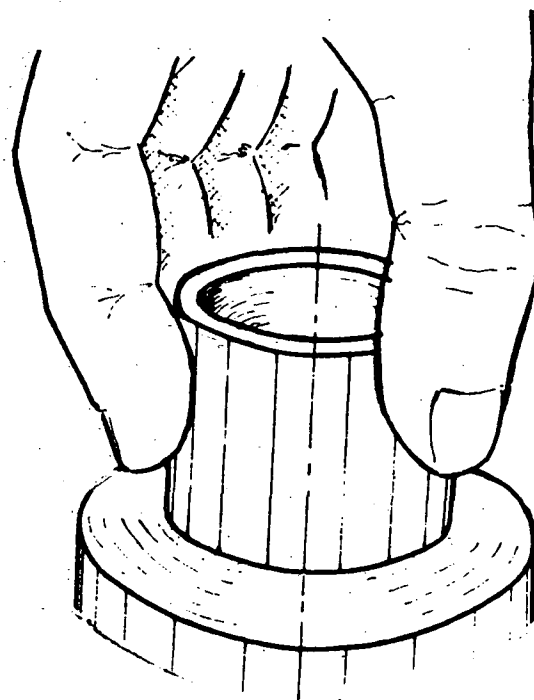

Fig. 2
- Put the end of the bushing in the part (Fig. 2).